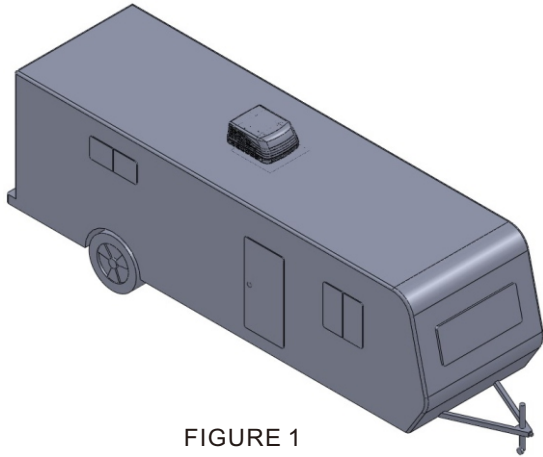

FIGURE 1
1. For one unit installation: The air conditioner / heat pump should be mounted slightly forward of center (front to back) and centered from side to side. See FIG.1.